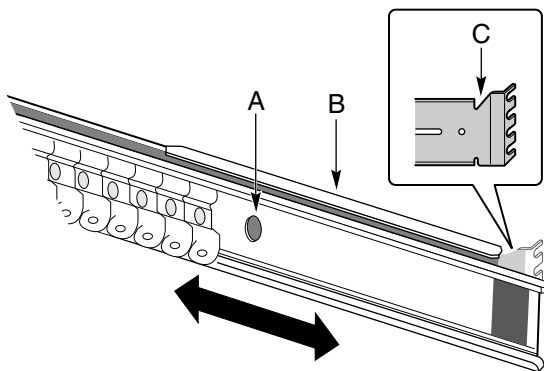

Figure: Step 6
- 6** Attach the system side rail outer pieces (total of two) to the rail brackets you installed in step 5. To attach the front part of an outer piece to a rail bracket, you must reveal the access hole (A in Figure Step 6) by sliding the innermost piece toward the back. Once you see the access hole, align it with the slot in the rail bracket in order to secure the bolt. Do not tighten the nut and bolt until you have aligned the rear portion of the rail system (see Step 7).